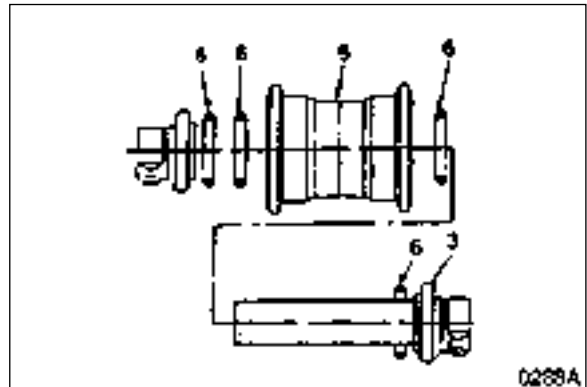

Figure 37
4. Insert group seals (6, Figure 37) into the roller (5) and collar (3).